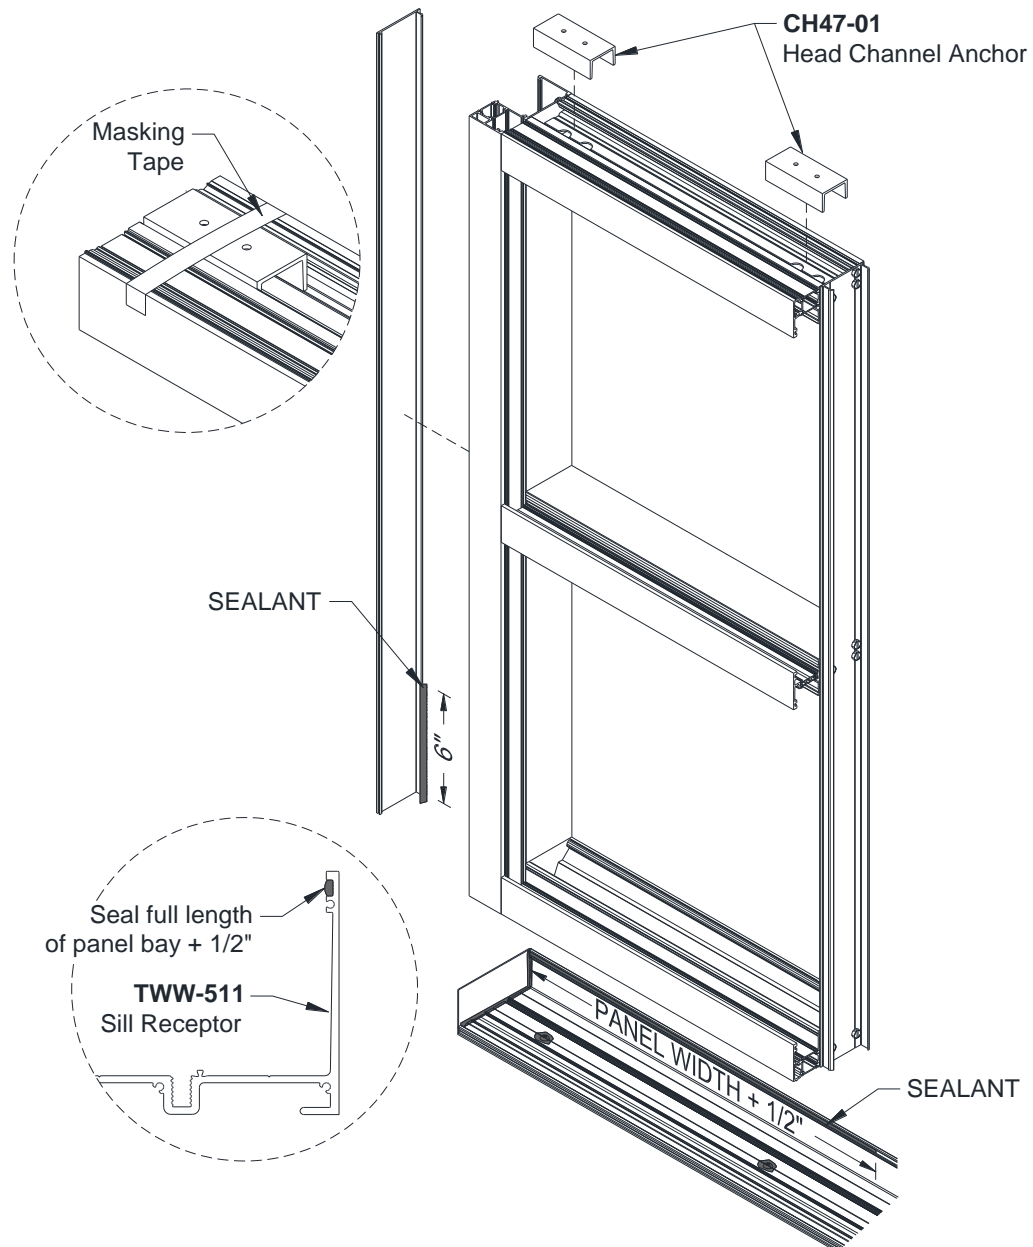

Figure 69: Panel Installation, First Panel
- 19.1 For every panel to be installed, temporarily tape the **CW47-01** Head Channel Anchors to the Head, aligning the access holes in the anchor with the holes in the head member, as shown in *Figure 69*.
- 19.3 Just prior to placing the first panel, apply Sealant the full width of the panel bay plus 1/2" in the top of the Sill Receptor. Reference *Figure 69* for location.